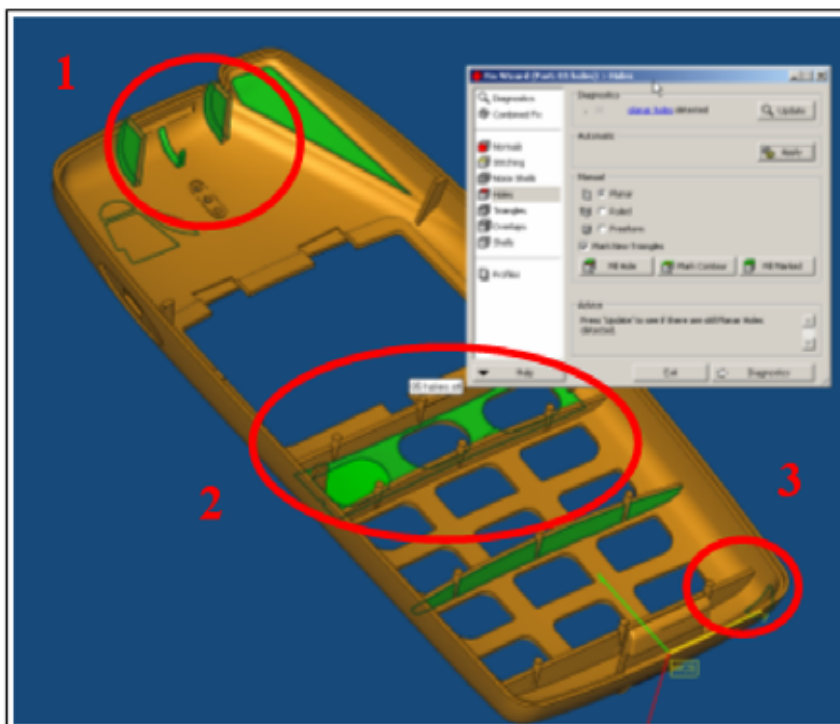

Figure 71: Model to fix - 05holes.stl
- The model for this exercise is shown Figure 71.